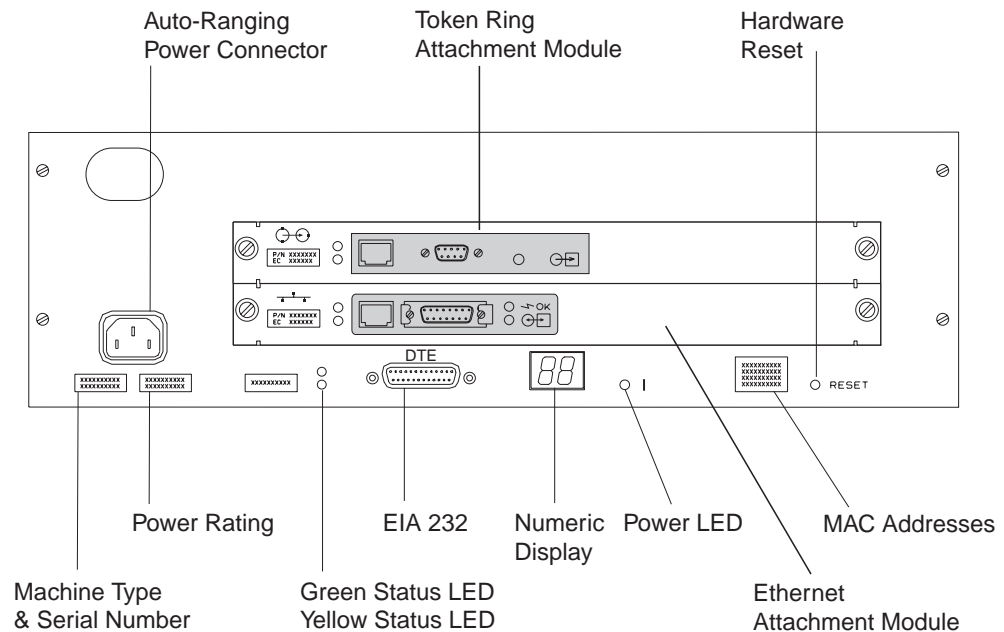

Figure 2-10. The Ethernet Bridge Front Panel
Notice the icon in the upper left-hand corner on the front. (See the matching symbol in the figures below.) Verify that the **token-ring module** is installed in the **upper slot** and the **Ethernet** in the **lower slot** of the ethernet bridge, refer to Figure 2-10 on page 2-10.
- 1) \_\_\_\_ Locate the first MAC address on top of the label on the front of the ethernet bridge (to the left of the reset button). See Figure 2-10 on page 2-10 for a view of the ethernet bridge front panel.
- c) \_\_\_\_ Locate the MAC addresses on the label on the front of the ethernet bridge (to the left of the reset button). See Figure 2-10 on page 2-10 for a view of the ethernet bridge front panel. **Enter the top two MAC addresses** recorded on the label. , then press **enter**.